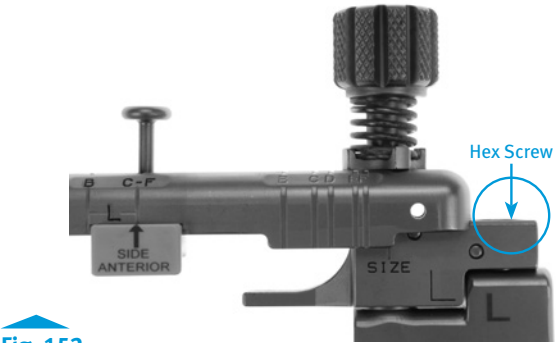

Fig. 152
- Adjust the base slider by loosening the thumb screw of the Condylar Trephine Guide so that the recessed hex screw is accessible for attachment of the Trephine Guide Bushing (Fig. 152).